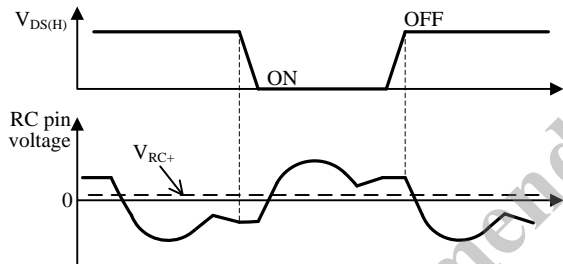
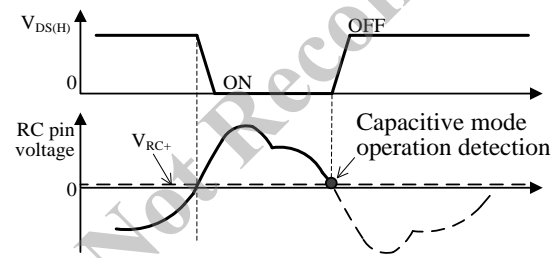

Figure 8-23. RC Pin Voltage in Inductance Area
Figure 8-24. RC Pin Voltage in Capacitance Area
Figure 8-23 shows the RC pin waveform in the inductance area, and Figure 8-24 shows the RC pin waveform in the capacitance area.
In the inductance area, the RC pin voltage doesn't cross $V_{RC} = +0.155\text{ V}$ in the downward direction during the on period of Q_(H) as shown in Figure 8-23.
On the contrary, in the capacitance area, the RC pin voltage crosses $V_{RC} = +0.155\text{ V}$ in the downward direction. At this point, the capacitive mode operation is detected. Thus, Q_(H) is turned off, and Q_(L) is turned on, as shown in Figure 8-24.